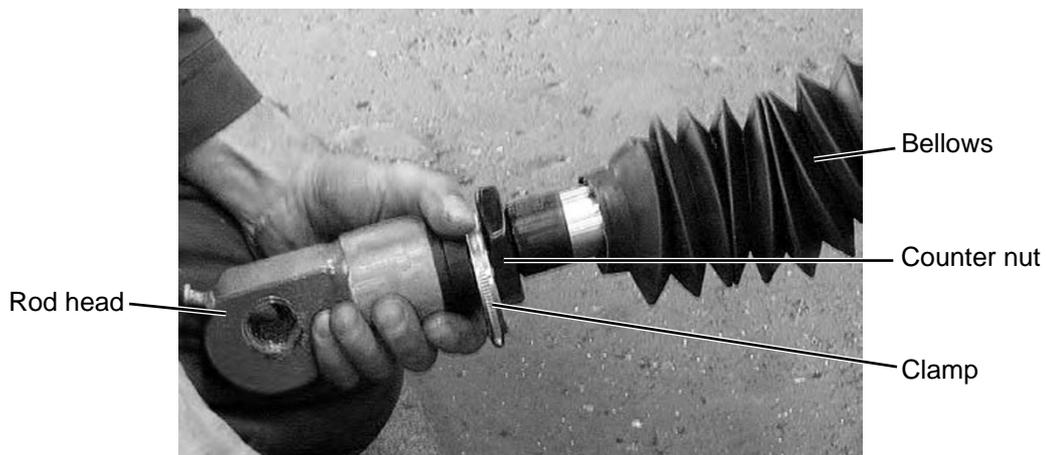

Figure 35: Tilt cylinder
- ▶ Loosen the hose clamps of the bellows on the tilt cylinders and slide the bellows down (see Figure 35).